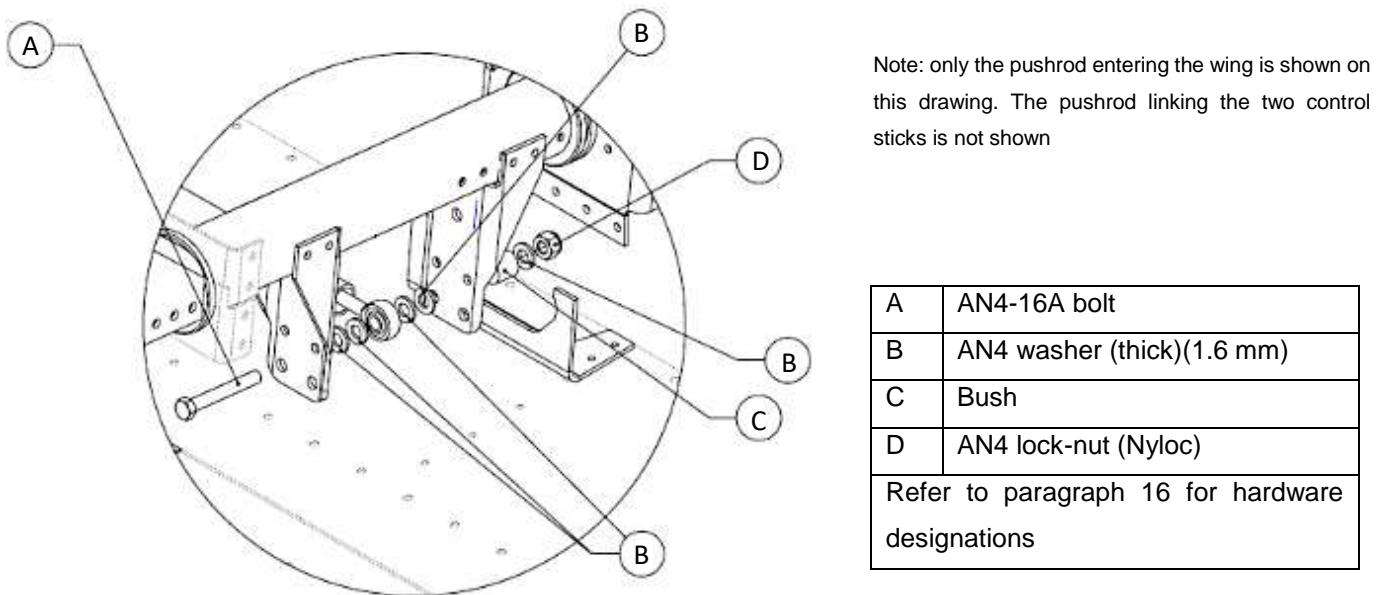

Figure 7: Aileron pushrod-to-control stick connection.
- Tighten the lock nut on the bolt through the aileron pushrod rod end bearing sufficiently, observe the correct placement of washers (refer to Figure 7) and note that the bolt is installed with its head facing the nose of the aircraft.